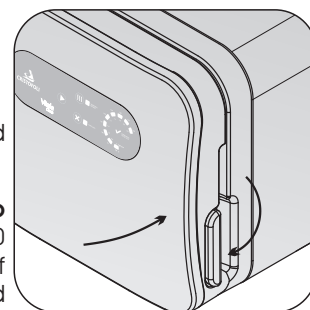

Fig. 8
- d► Close the door of the autoclave pressing it against the chamber (pressure vessel) and move the handle all the way down (Figures. 8 and 9).
If when pressing  the autoclave beeps continuously, it means the door is not properly closed. Open and close the door **correctly**, as shown in the figures 8 and 9.